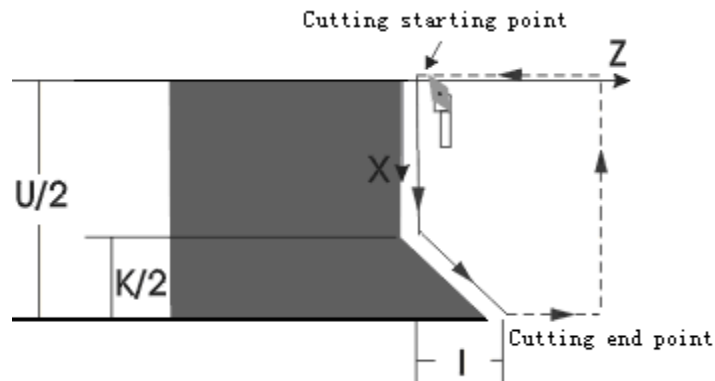

Fig. 4-25
4) G92 end face thread: as Fig. 4-25